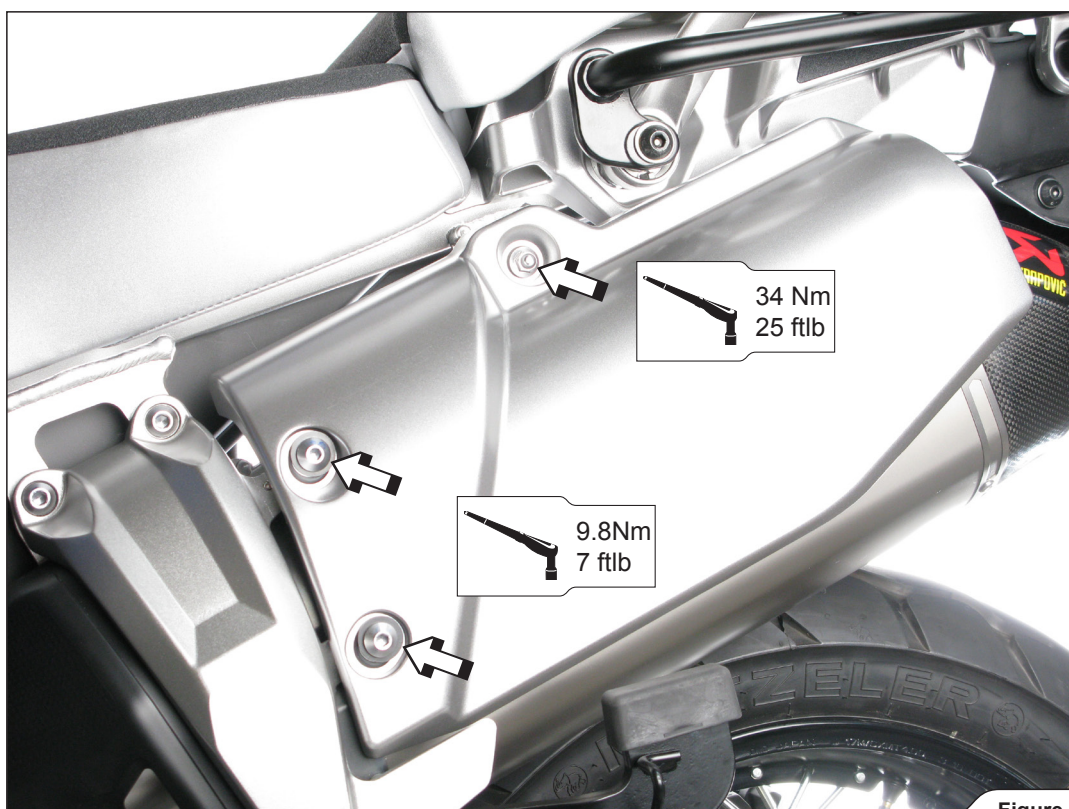

Figure 6
3. Install the stock heatshield onto the motorcycle, align the muffler in respect to the motorcycle and tighten the muffler bracket using stock bolt, washers and nut. Tighten the heatshield's bolts to a specified torque (**Figure 6**).